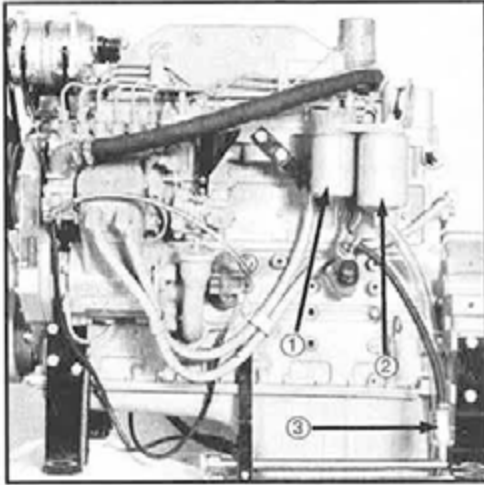

FIG 8.28
PRIMARY (WATER SEPARATOR) - (fig. 8.28, item 1) Drain water and sediment from the separator daily. Replace every 500 hours or once a year, whichever comes first.
SECONDARY - (fig. 8.28, item 2) Replace every 500 hours or once a year, whichever comes first.
IN-LINE STRAINER - (fig. 8.28, item 3) Note direction of fuel flow arrow when replacing.